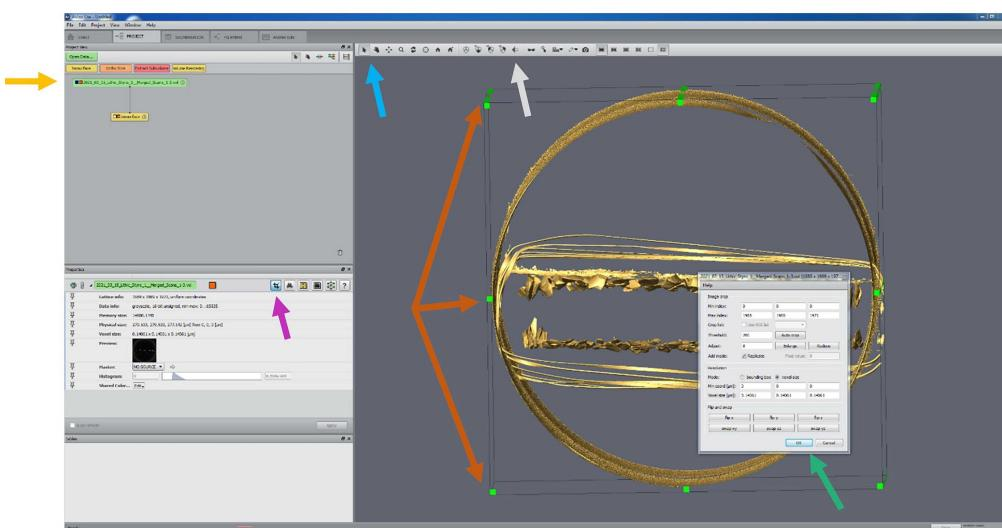

Fig. 15: Cropping process to remove outlying materials.
- 22.1** Select the ‘Eye’ sign in the top menu bar above the 3D viewing panel (grey arrow in Fig. 15) to switch to orthographic view (‘Eye’ sign with parallel sight lines).
- 22.2** Select the vol file label (yellow arrow in Fig. 15).
- 22.3** Rotate the 3D model into a proper position (e.g., as shown in Fig. 15) that allows for easier removal of the unnecessary outlying material.
- 22.4** Select the ‘Cursor’ sign in the menu bar above the 3D viewing panel (blue arrow in Fig. 15).
- 22.5** Select the first ‘Tool’ sign (Cropping tool) in the options bar (pink arrow in Fig. 15).
Use the left mouse button and cursor to narrow the bounding box (brown arrows in Fig. 15).
- 22.7 Apply changes to delete excluded materials with 'Ok' in cropping window (green arrow in Fig. 15).